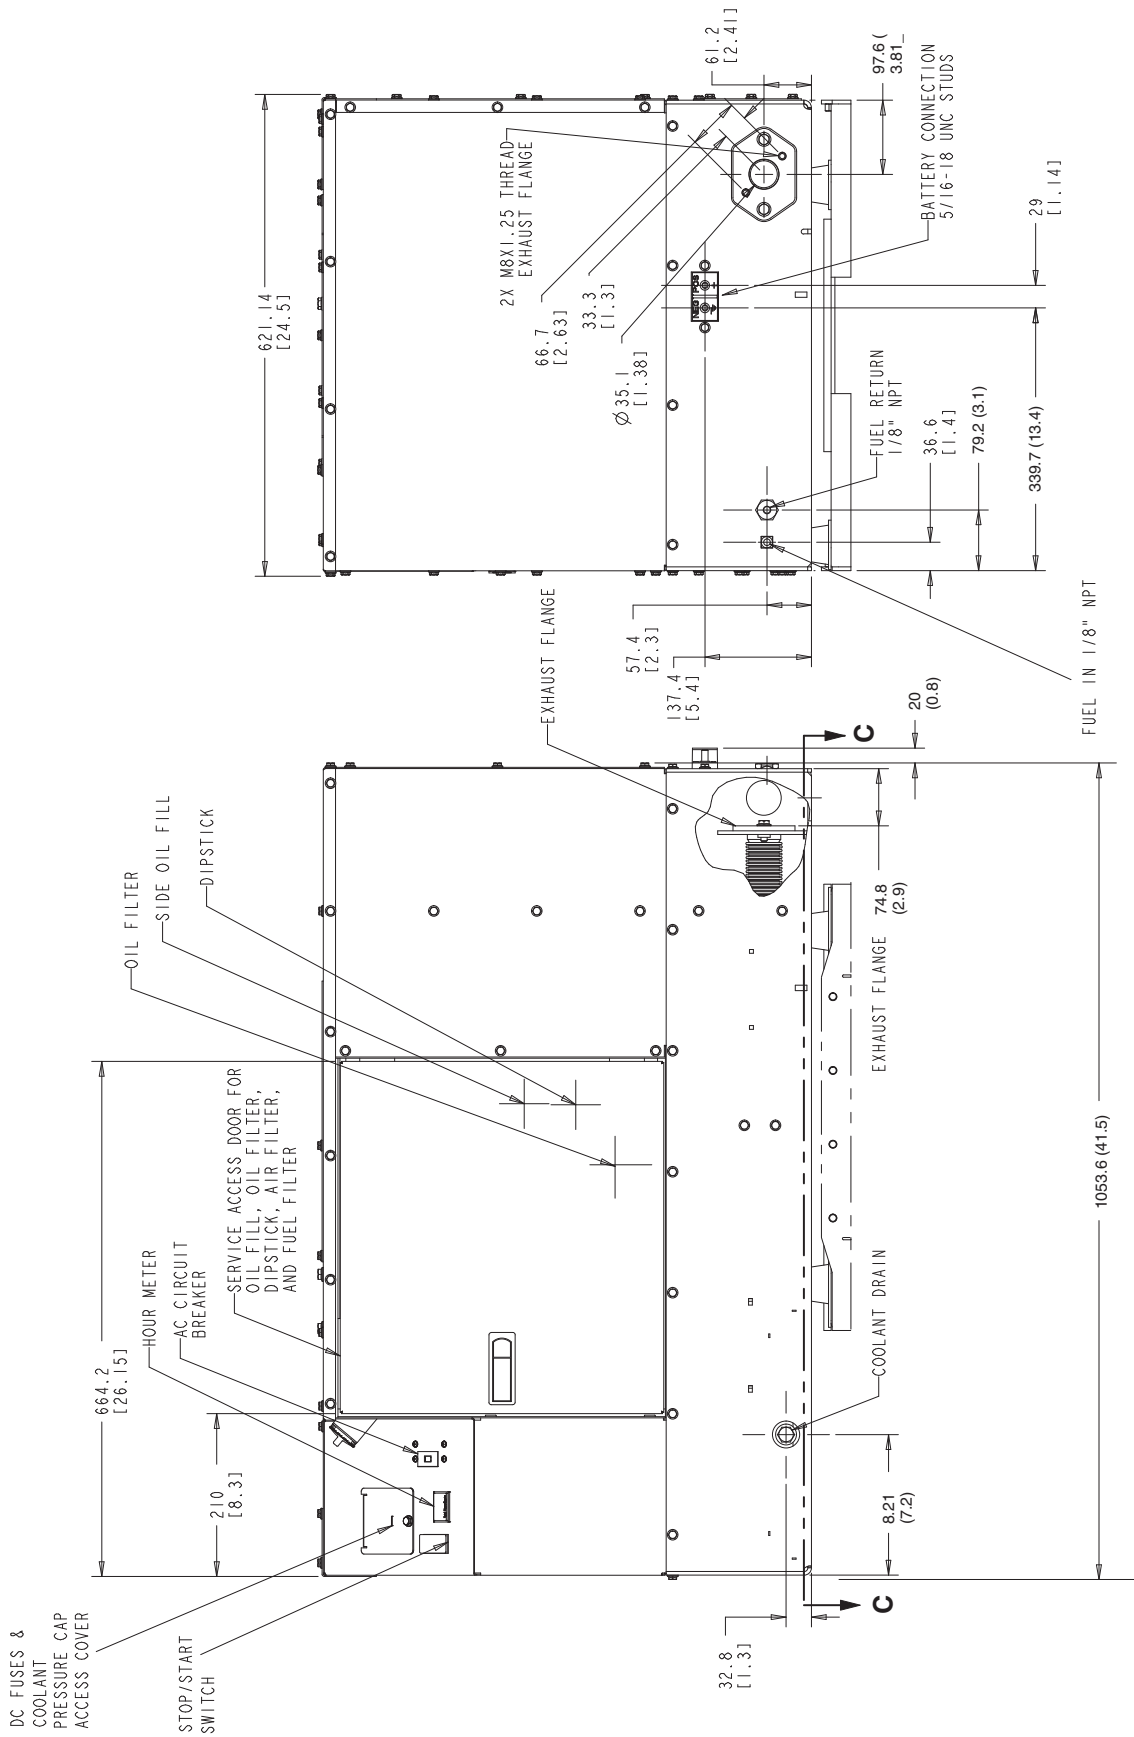

FIGURE 3. GENSET OUTLINE—FRONT AND RIGHT-SIDE VIEWS
2. Provide access to the service access doors on the front (Figure 3) and top (Figure 4) of the genset.